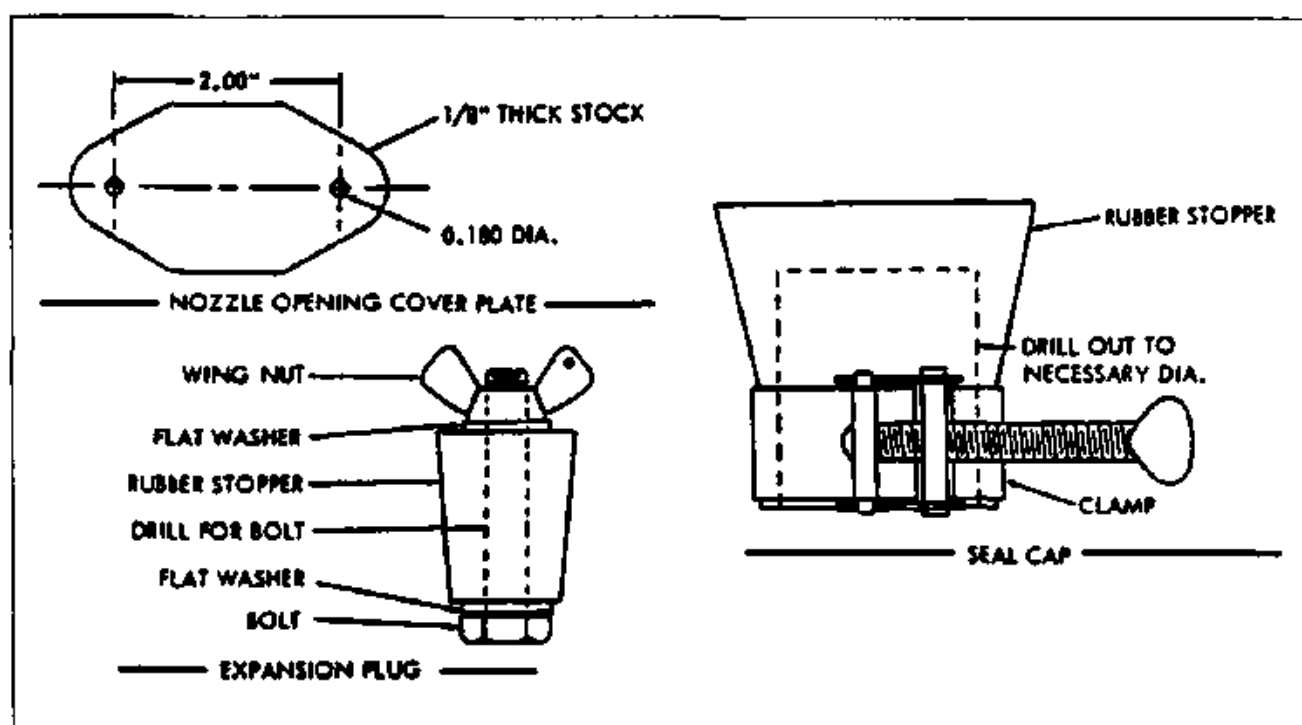

Figure 13-23. Suggested Design for Seal Plate,
b. Test the combustion tube assembly (86) for leaks as follows:
1. Fashion a sealing plate from approximately 1/8 inch thick flat stock to seal the nozzle holder opening in the combustion tube assembly. (Refer to Figure 13-23.) Use a rubber gasket under the plate and attach the plate with two screws.
2. Make up seals for all remaining openings, except the one used to connect the air pressure source. (Refer to Figure 13-23.) Use rubber stoppers as shown. The combustion air inlet tube can be sealed best with a drilled stopper and clamp. Other openings should be sealed with expansion plugs. The seal used in the exhaust tube should be formed so that it will not deform the air pressure switch tube which protrudes into the exhaust.